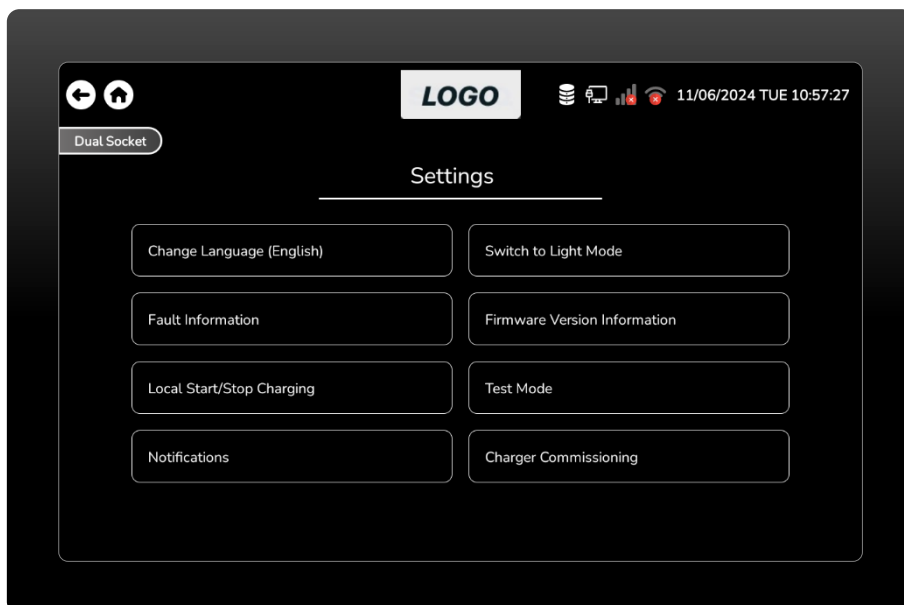

Figure 6 Setting Menu Screen.
- This is a setting menu with eight settings options. (Figure 6)